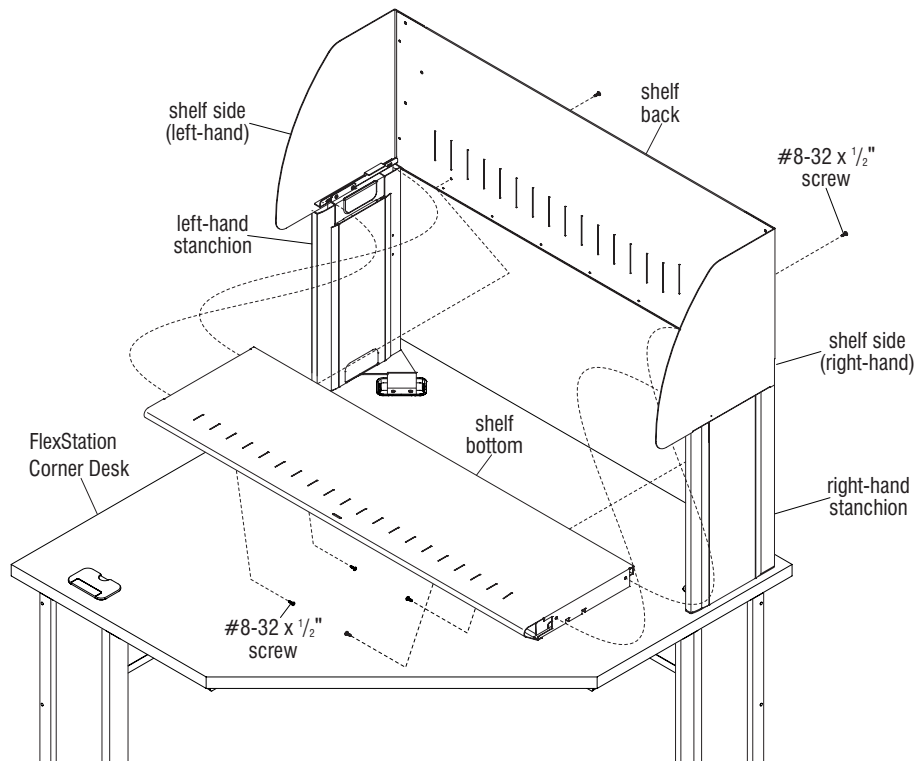

Figure 22
8. Place the shelf bottom into position between the cabinet sides, above the lower mounting flanges and tight to the installed shelf back. Nest the bottom shelf down onto both cabinet sides lower mounting flanges and align mounting holes. Secure the bottom shelf to the cabinet sides from underneath, at each end using two #8-32 x 1/2" screws (Figure 22).
9. At the lower rear of the shelf back, secure the shelf back to the rear edge of the bottom shelf using two #8-32 x 1/2" screws (Figure 22).